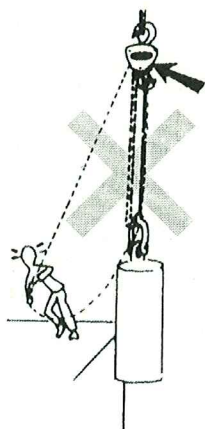

Fig.8
- 8) Do not perform over-winding, that is, over-lifting or over-lowering. Check whether the chain hoist is overwound or not when the hand chain cannot be easily pulled during operation. (Fig. 8)